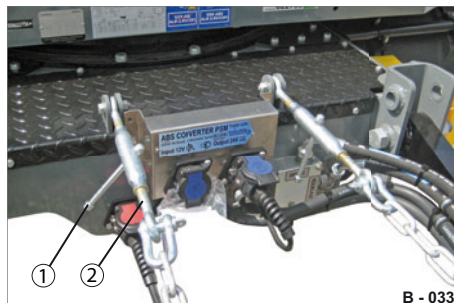

Fig. 49 Height adjustment - variety 1
- Turn both clamping bolts in parallel (Fig. 49/1) in the necessary direction. The drawbar lifts or sinks.